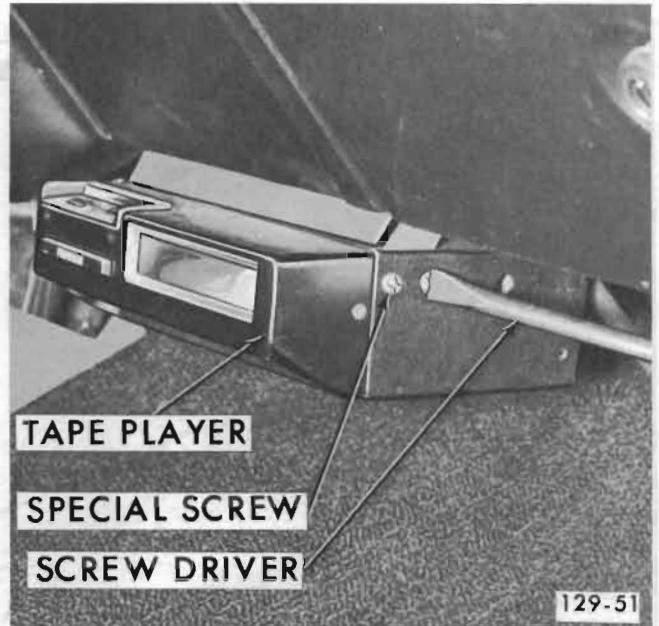

Figure 129-16 Anti-Theft Screw Removal
2. Use a large screwdriver to remove loosened special anti-theft screws. See Figure 129-16.